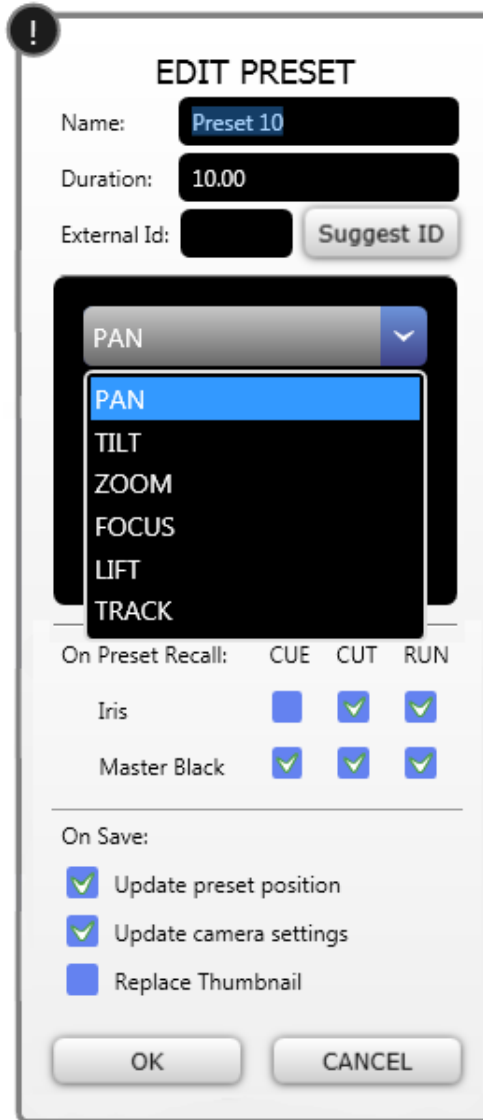

Figure 69 - EDIT PRESET Dialog Box with Axis List Expanded
- a. In the axis list, tap the name of the axis (Figure 69).